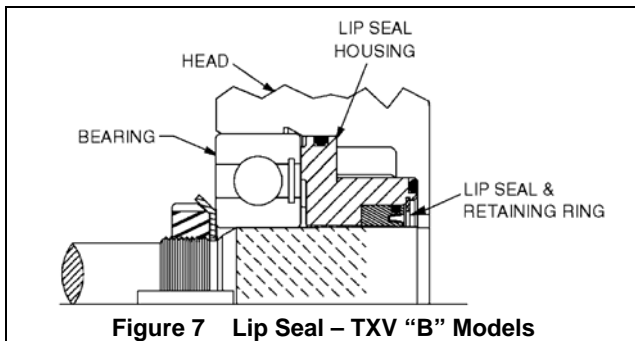

Figure 7 Lip Seal – TXV "B" Models
The lip seal assembly (152) consists of a metal housing with elastomer(s) around its outer diameter(s), and a PTFE lip seal in its inner diameter. TXV "A" models are equipped with spacer washers. Refer to Figures 7 and 8.